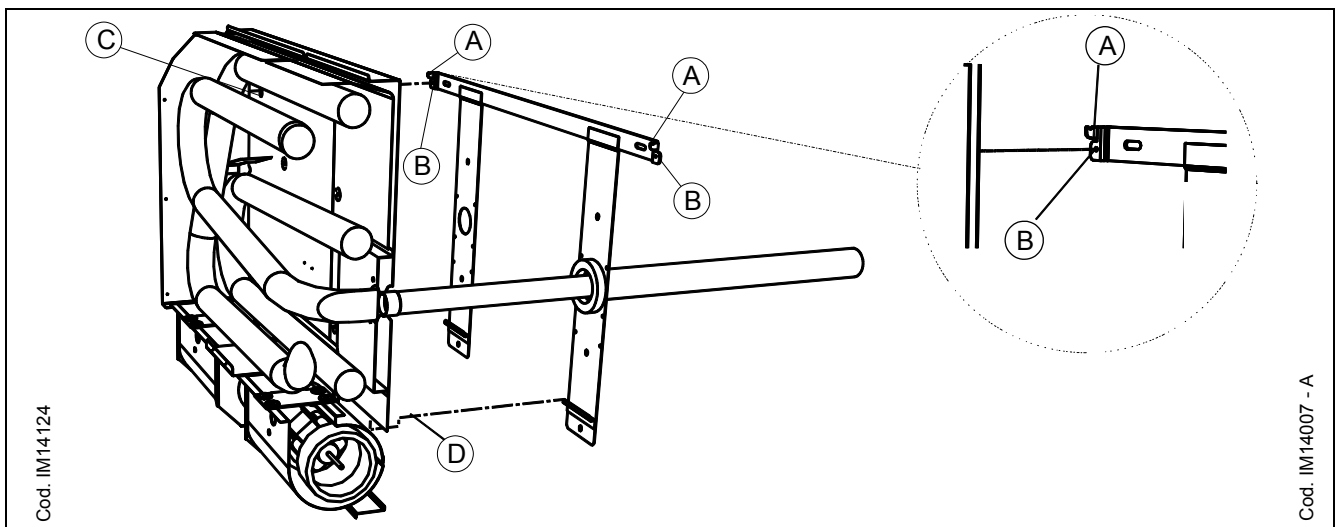

Figure 17 – FIXING OF THE UNIT TO THE SUPPORTING BRACKET 8001 AND 8002 MODELS
12. For 8001 and 8002 models, install the unit to the wall leaning the upper edge of panel C (where the fan is located) to the supporting frame, as indicated in Figure 17. Fix the unit to the matching hooks A, with a light
pressure against the wall (see Figure 17). Install the heating body of the unit to the supporting bracket with the two lateral screws (see reference B in Figure 17).
13. For models 3001 and 3002 fix the units to the support A (see details on Figure 17) with a light pressure on the wall. Fix the heating body to the supporting bracket with the side screw.